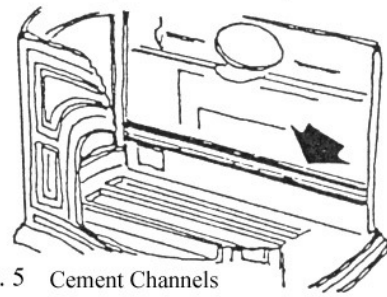

FIG. 5 Cement Channels in Back Plate
- Cement along the top of the upper and lower ribs on the back plate. (Fig. 5)\*